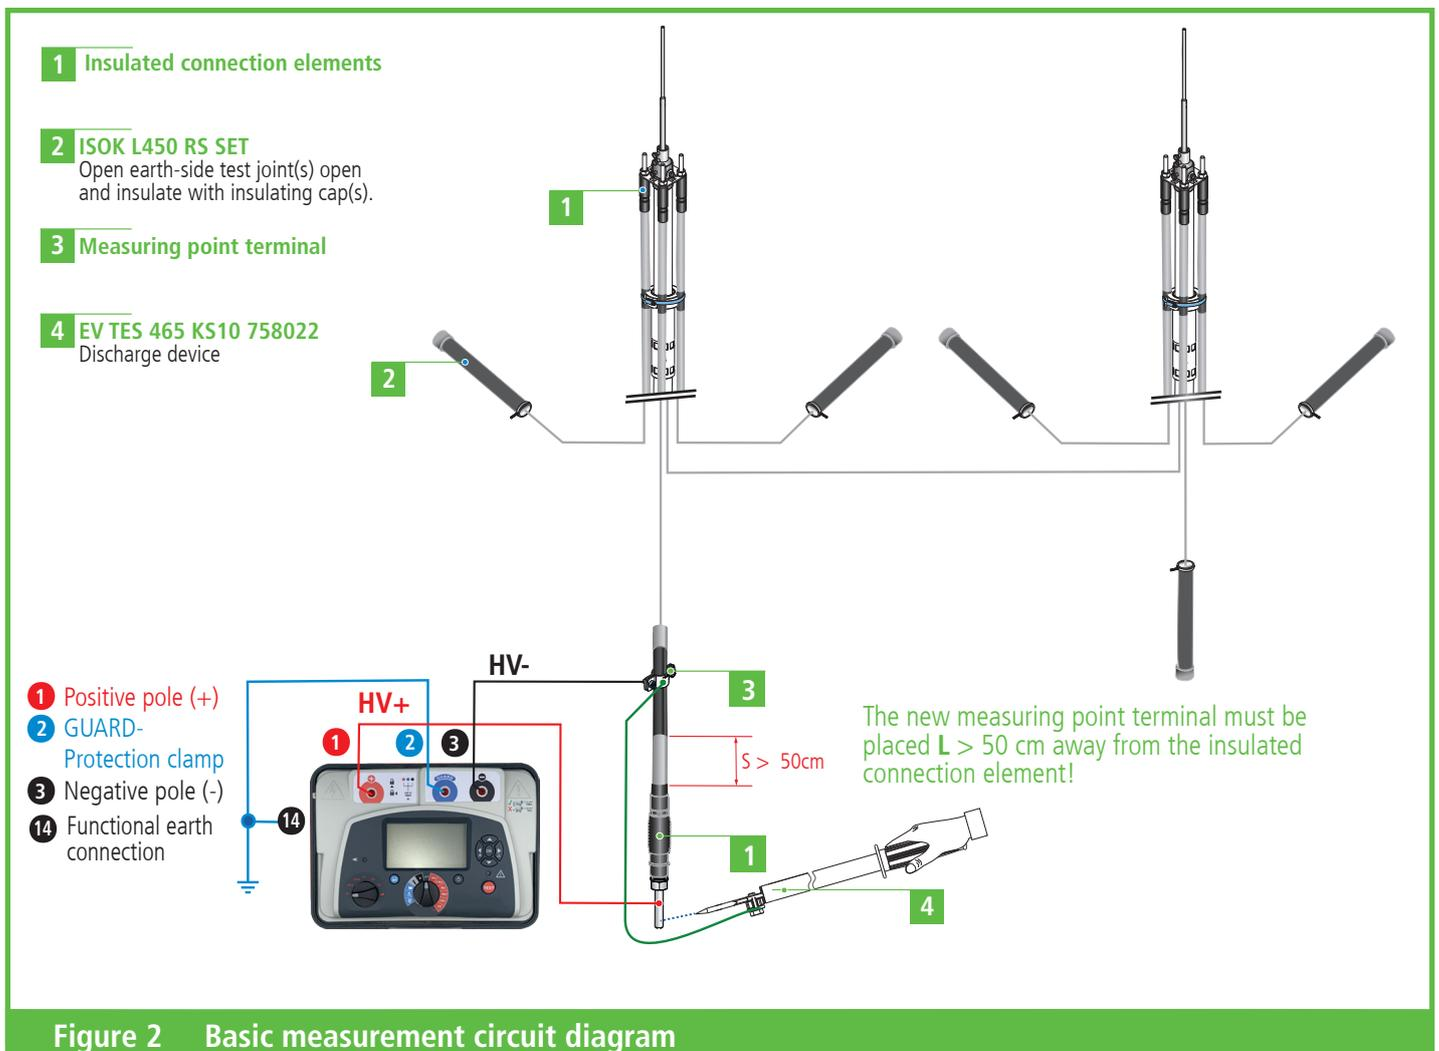

Figure 2 Basic measurement circuit diagram
- ➔ For insulation measurement(s) on/in intermeshed **HVI systems**, it is sufficient, for example, to carry out the measurement (with the **Megger MIT1525** test device) at only one conductor end (see Figure 2, basic measurement circuit diagram).
- ➔ All other conductor ends must be disconnected and protected from accidental contact and insulated using insulating caps (**ISOK L450 RE SET** item 2, page 5), taking into account the safety labelling and enclosure (cover) on the system to be tested.
- ➔ When installing or fitting the insulating caps (item 2) over the open conductor end, they must be screwed tightly to the conductor ends using the locking screw(s) (see Fig. 2, basic measurement circuit diagram).
- The discharge cable from the discharge device is connected to the measuring point terminal (item 4, page 5).
- Connect the measuring device with the connecting cables (Fig. 2, page 5).